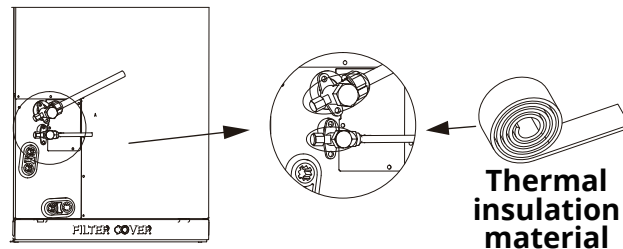

Fig. 6.9
9. Once the unit is installed, and you have confirmed the system does not leak, insulate and wrap all the piping, including the valve bodies with thermal insulation material to prevent condensation. Ensure the valve is sealed. Please refer to **Fig. 6.9**.